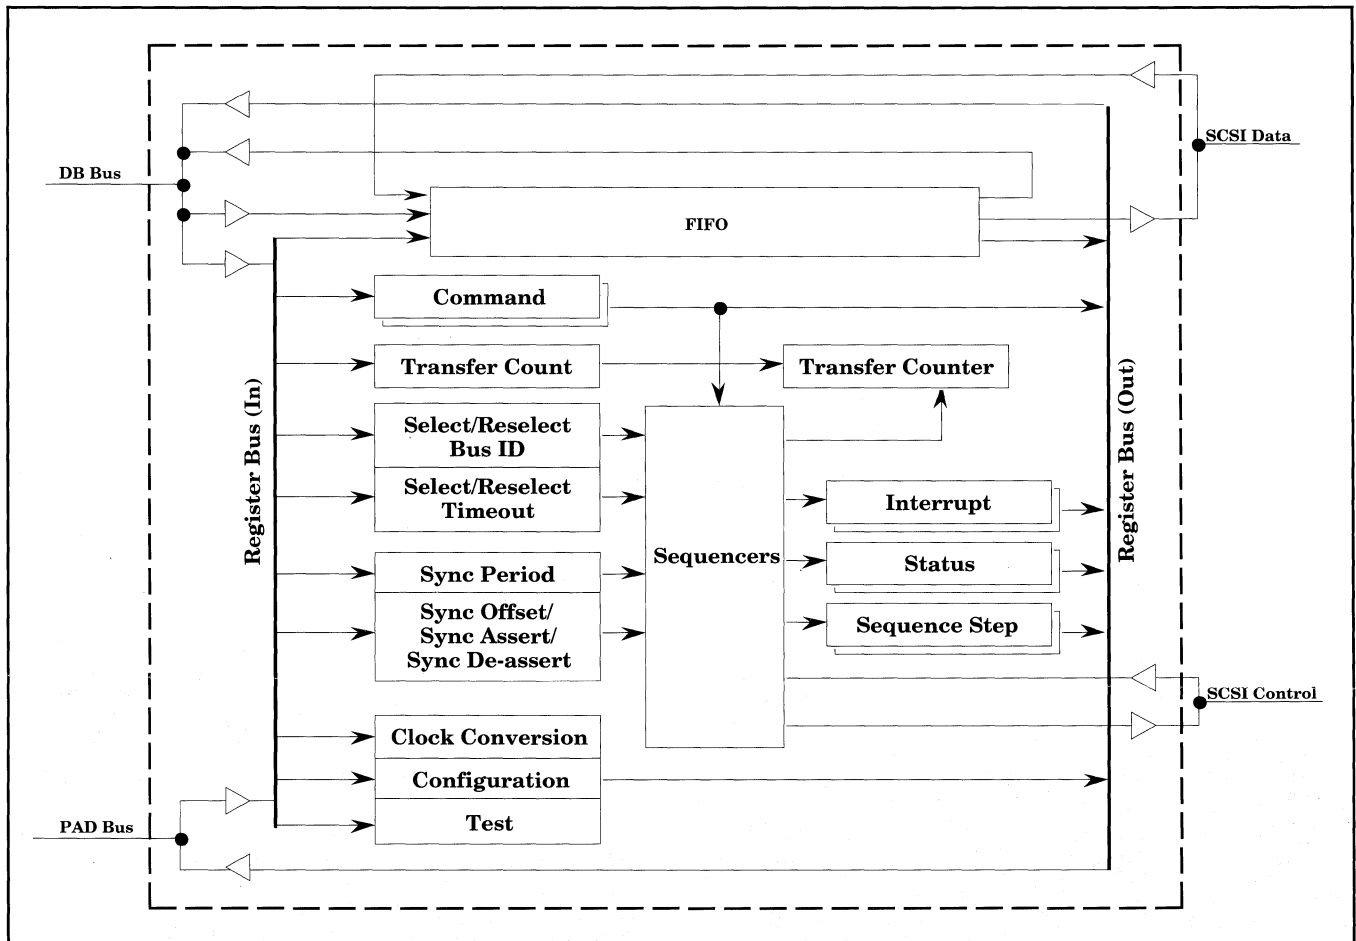

Figure 1. FAS216 Block Diagram
The FAS216 controller systems support three main busses: the 8-bit SCSI Bus, the 8-bit or 16-bit Data Bus (DB), and the 8-bit Processor Address (PAD) bus. This versatile split-bus architecture separates the two high traffic information flows of the system, providing maximum efficiency and throughput. Figure 1 shows the internal architecture of the FAS216.